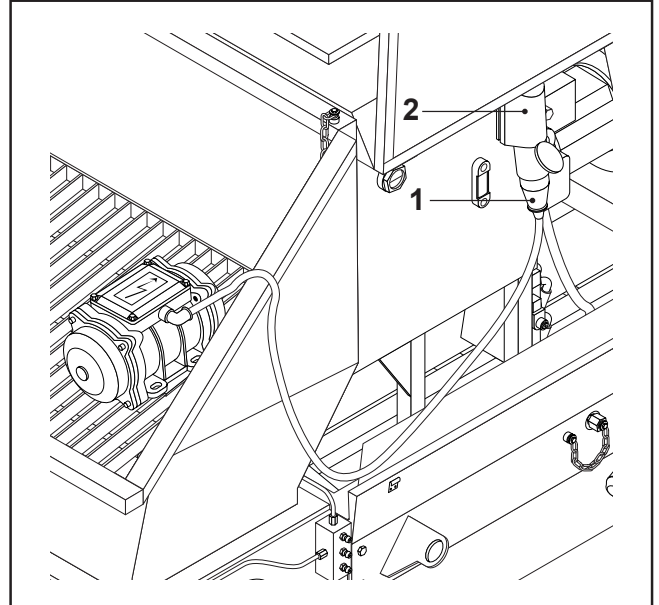

FIG.19
- Connect the electric vibrator's plug (FIG.19-REF.1) to the machine socket (FIG.19-REF.2) located on the hydraulic tank. Close the door after connection.
- Open the small door, connect the electric vibrator's plug (FIG. 19-REF. 1) to the machine's socket (FIG. 19-REF. 2) located on the hydraulic oil tank and close the door.